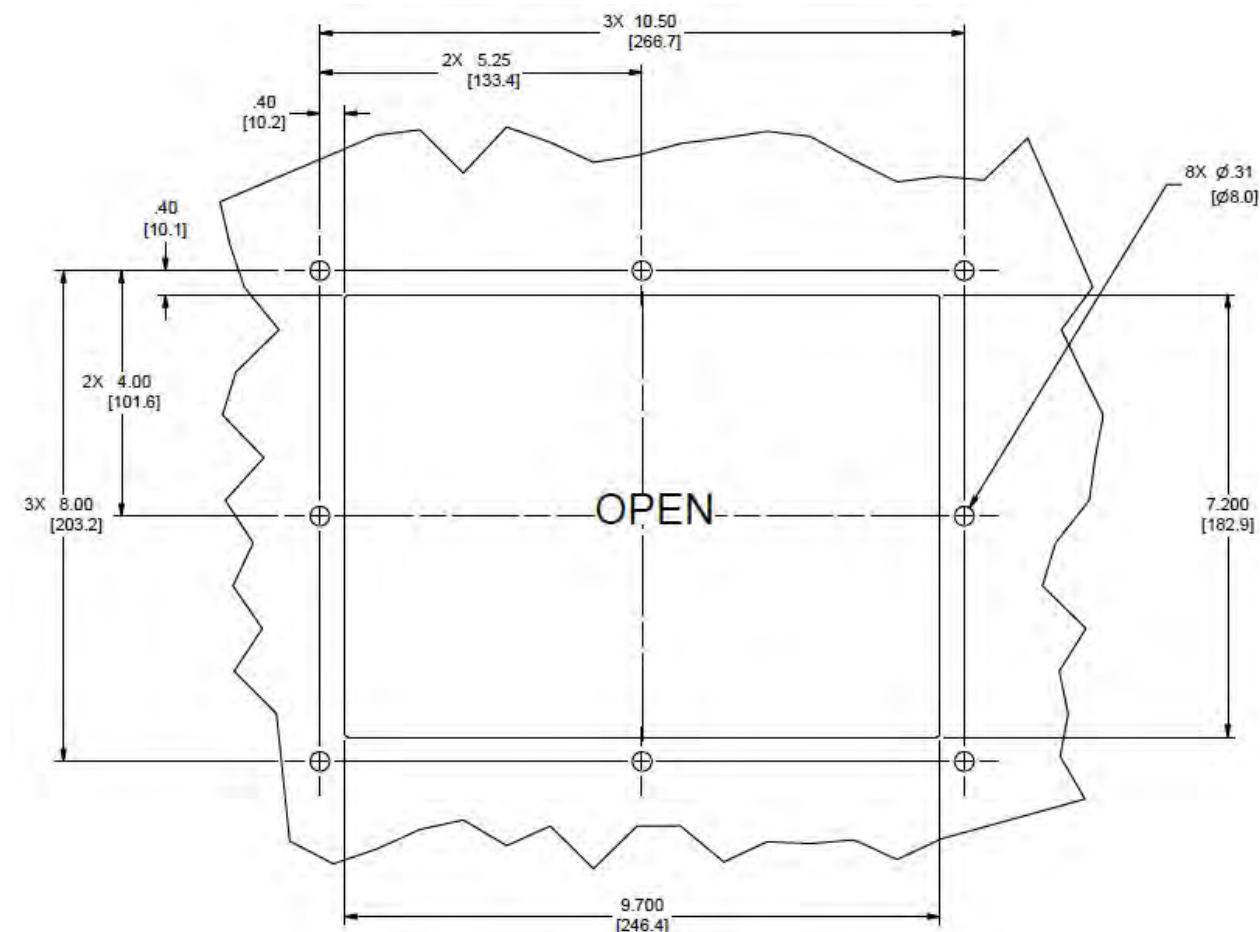

Figure 5-16 Panel Mount Cutout Dimensions
1. Cut the panel according to the dimensions shown in Figure 5-16.